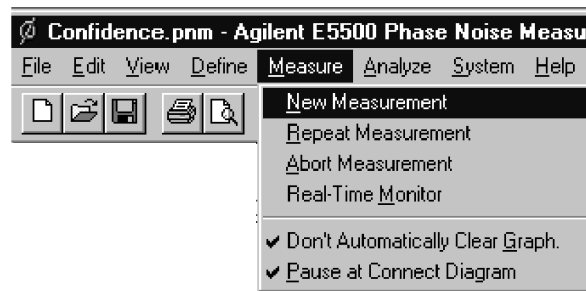

Figure 1-37 Selecting a New Measurement
- 1 From the **Measure** menu, choose **New Measurement**. See Figure 1-37.